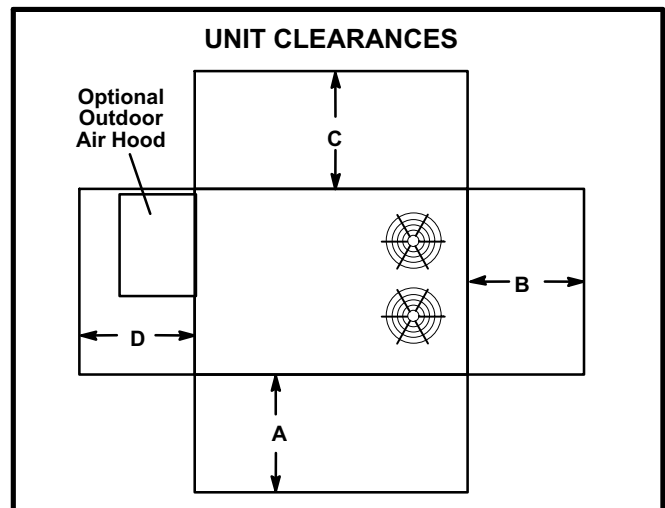

FIGURE 1
The KDB unit is ETL/CSA certified for outdoor installations only at the clearances to combustible materials listed on unit nameplate and in figure 1.
The KDB unit is ETL/CSA certified as a heat pump with cooling and auxiliary gas heat for non-residential use only at the clearances to combustible materials as listed on the unit nameplate and in figure 1.
- 10- Specified installation clearances must be maintained when installing units. Refer to figure 1.